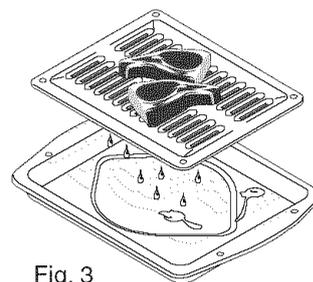

Fig. 3
**Note:** The broiler pan and the insert allows grease to drain and be kept away from the high heat of the broiler (See Fig. 3). **DO NOT** use the pan without the insert. **DO NOT** cover the insert with foil; the exposed grease could ignite.